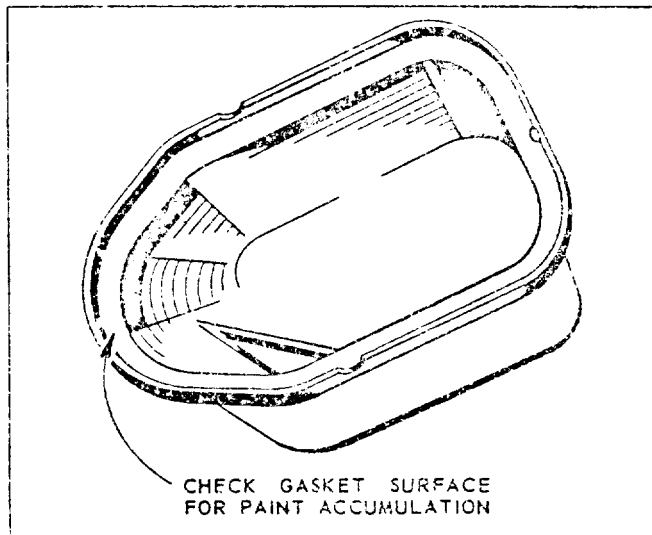

Fig. B-21
ROCKER ARM COVERS (Fig. B-21)
1. Check gasket face surface of rocker arm cover, at the rounded end, for paint accumulation, *see Fig. B-21*. Scrape off any paint that forms a hump. Smooth scraped area with emery cloth or steel wool.